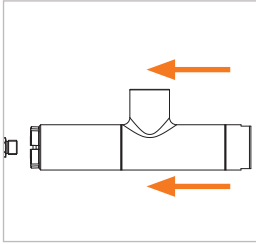

Figure 13
- ▶ With the pilot pressure applied, insert the connector straight onto the test piece until the front seal (Pos. 7) touches the test piece (Figure 13). Doing so will prevent any damage to the front seal caused by any sharp edges on the test piece and ensure a correct connection. **Attention:** Insert the connector carefully and not with force onto the test piece.